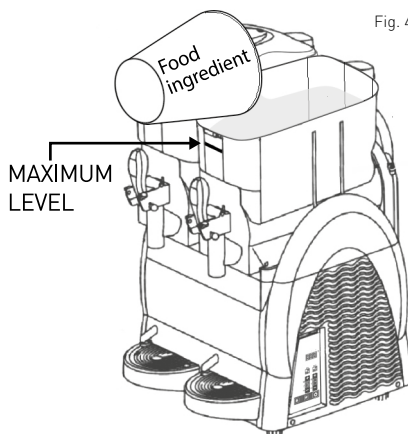

Fig. 4
- Pour the food ingredient into the bowl (2) with care and not beyond the "MAXIMUM LEVEL". (See Fig. 4), (Do not pour hot liquid to avoid hazard.)